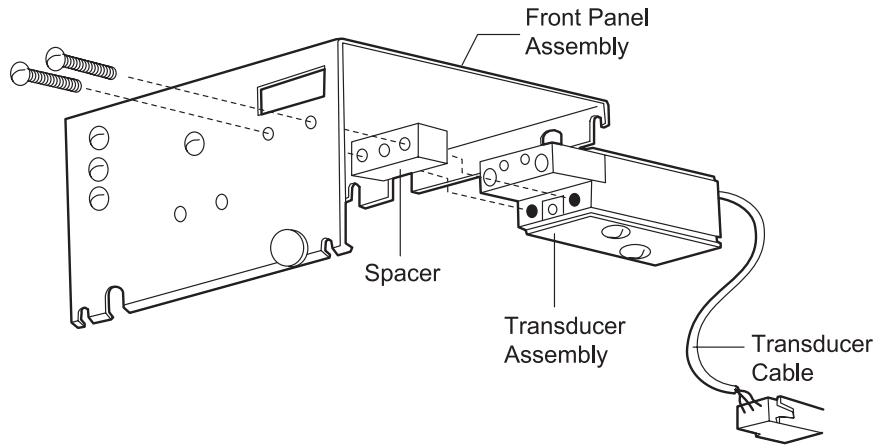

Figure 4-3 Transducer Replacement
5. Remove the two screws just below the transducer fittings on the front panel (Figure 4-3).